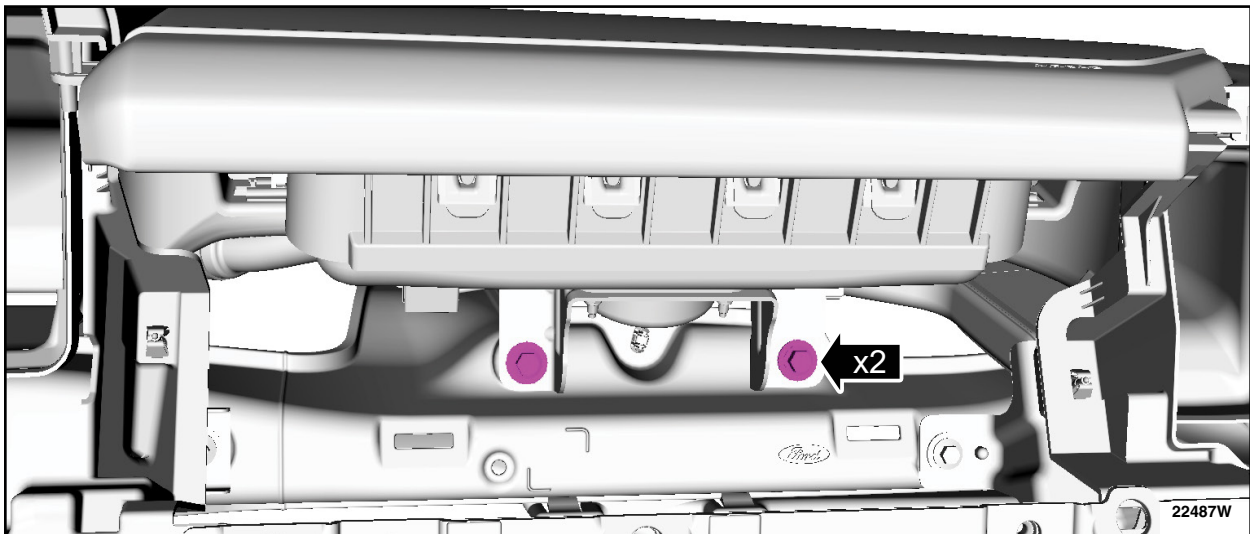

FIGURE 21
22. Remove the bolts. See Figure 21.